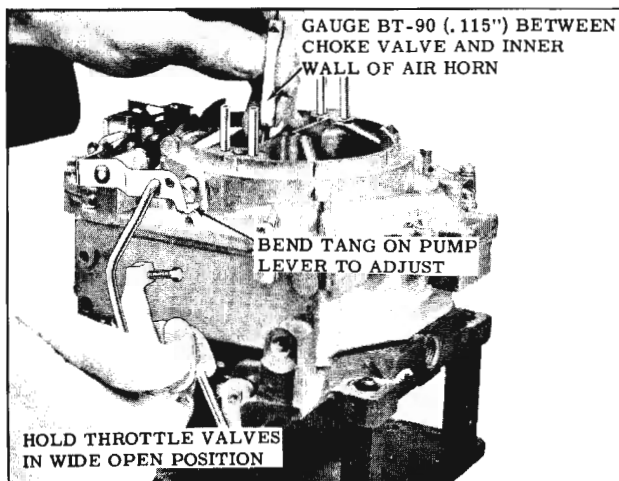

Fig. 9-29 Unloader Adjustment
2. While holding the throttle lever in the wide open position (with carburetor off car), or with accelerator pedal completely depressed (with carburetor on car), check the clearance between the top edge of the choke valve and the dividing wall. The correct clearance is .115" and can be checked with gauge BT-90. (Fig. 9-29)